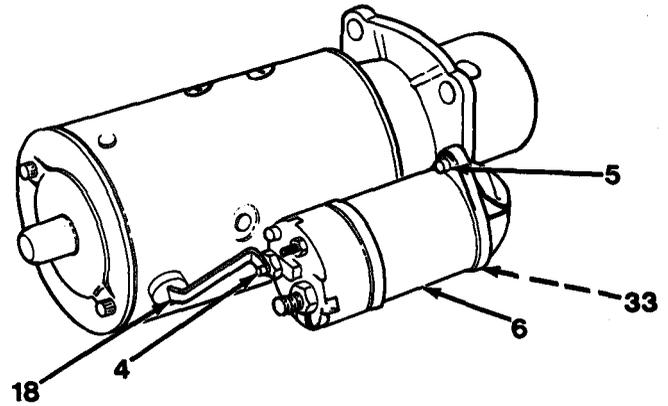
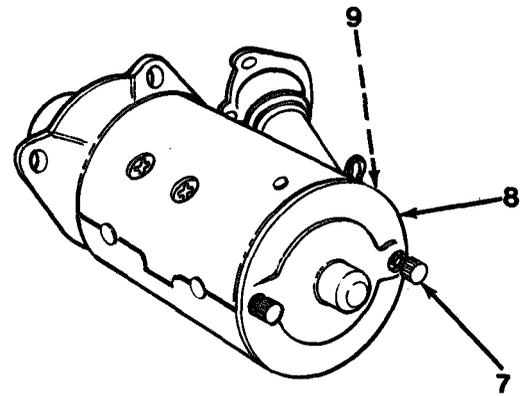

Figure 10-2
Figure 10-3
1. Remove switch screw (4) and disconnect field coil solenoid connector (18, Figure 10-2).
2. Remove two screws (5), starting motor solenoid (6) and spring (33).
3. Remove two thru bolts (7), commutator end frame (8) and washer (9, Figure 10-3).